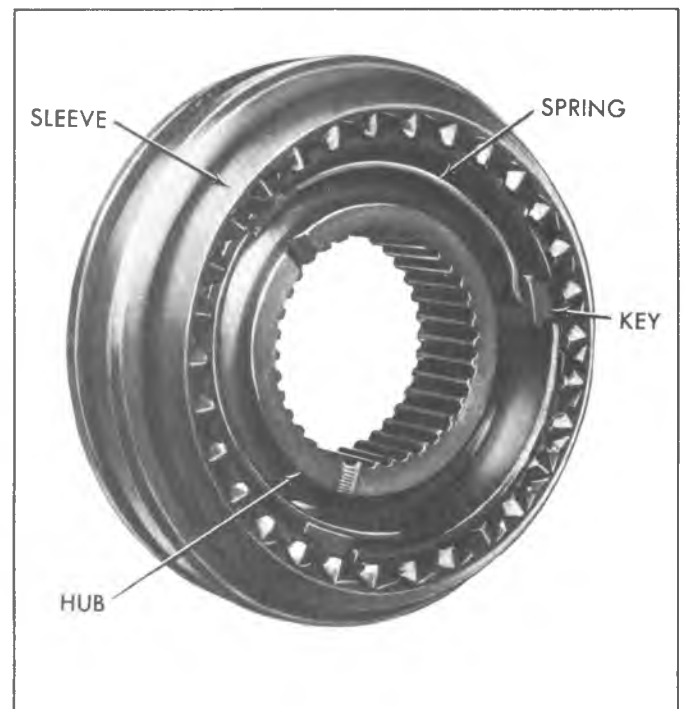

Fig. 11X--Three-Four Synchronizer Assembly
3. Place the three keys and two springs in position (one on each side of hub), so all three keys are engaged by both springs (fig. 11X). The tanged end of each synchronizer spring should be installed into different key cavaties on either side. Slide the sleeve